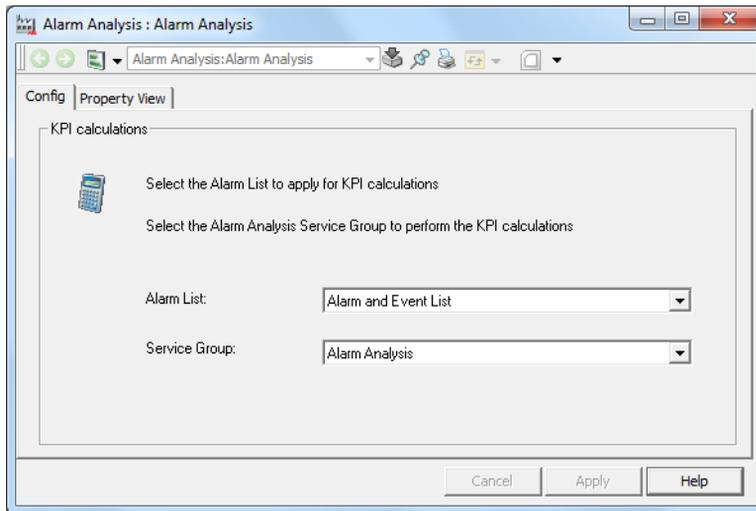

Figure 71. Alarm Analysis Configuration
2. By default, the Alarm Analysis aspect selects one Alarm List aspect and one Alarm Analysis Service Group. It is possible to modify the selections in the Alarm List and Service Group drop-down lists (refer to Figure 71).